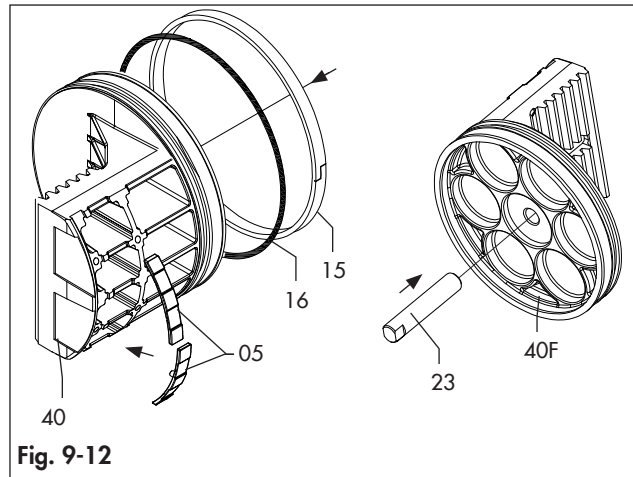
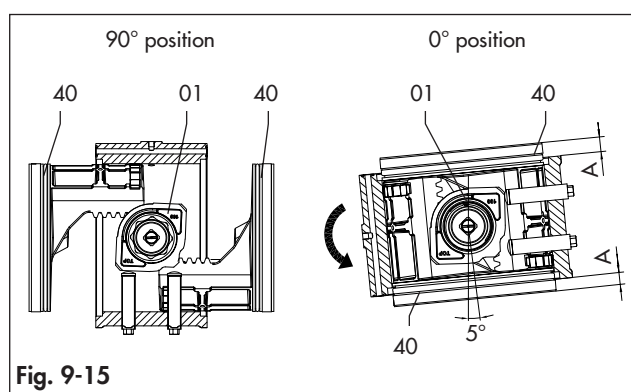

Fig. 9-12
Fig. 9-15
Refer to Fig. 9-1 and from Fig. 9-12 to Fig. 9-15.
- Insert and press the two pistons (40) simultaneously inside the body (50) until the pistons are engaged.
- Then rotate the body (50) anticlockwise from top view until the stroke is completed.
- With pistons completely closed (0° position) as per Fig. 9-15, referring to the axis of the body, the rotation obtained must be about over 0° up to 5°.
- With pistons completely closed (0° position) as per Fig. 9-15 the dimension “A” must be the same on both sides.
- Fasten or unscrew the screws (23) to push the pistons in the 0° position (Fig. 9-15).
- Lubricate and place the o-rings (11F) over the screws (23).
- Fix the screws (23) in position tightening the nuts (04F) along with the washer (03F).
- With the actuator in close position (0° position) referring to Fig. 9-15 for pistons position, screw or unscrew the right stop screw (02) 1 turn at a time until the desired stop position is achieved. In case of spring return actuator, a pneumatic supply may be necessary.